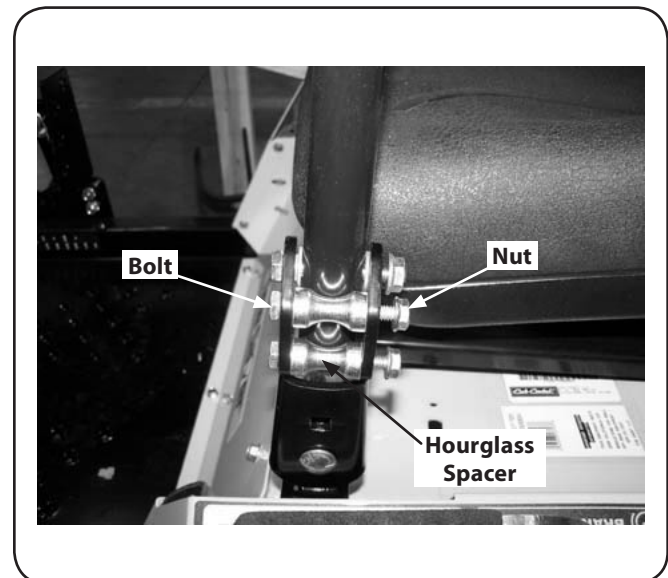

Figure 3-6
2. From the outside, insert the bolts through the hourglass spacers and the holes of the pivot bracket. Secure with the flange lock nuts. See Fig. 3-6.